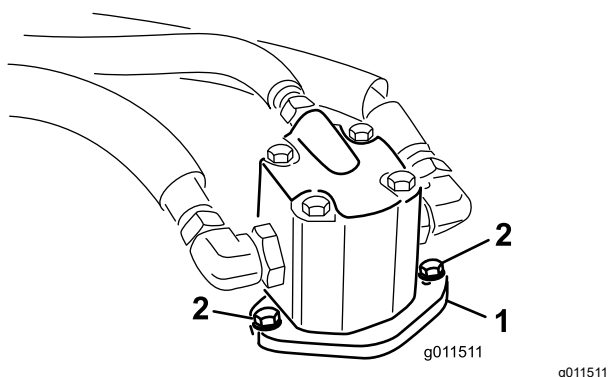

Figure 78
4. Remove the bolts securing the hydraulic motor to the cutting unit (Figure 78).